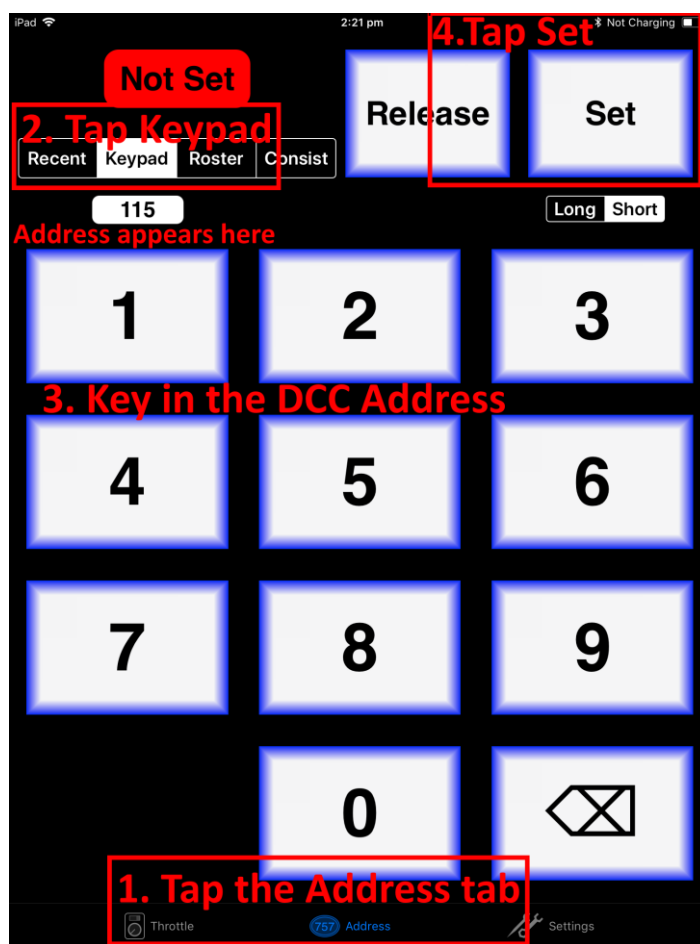

Figure 9 The Address tab of WiThrottle. Select a loco to drive
(10) Now tap the "Address" tab at the bottom (it might go there automatically), tap Keypad and key in the DCC address of the locomotive that you wish to drive then tap the Set button as Figure 9.